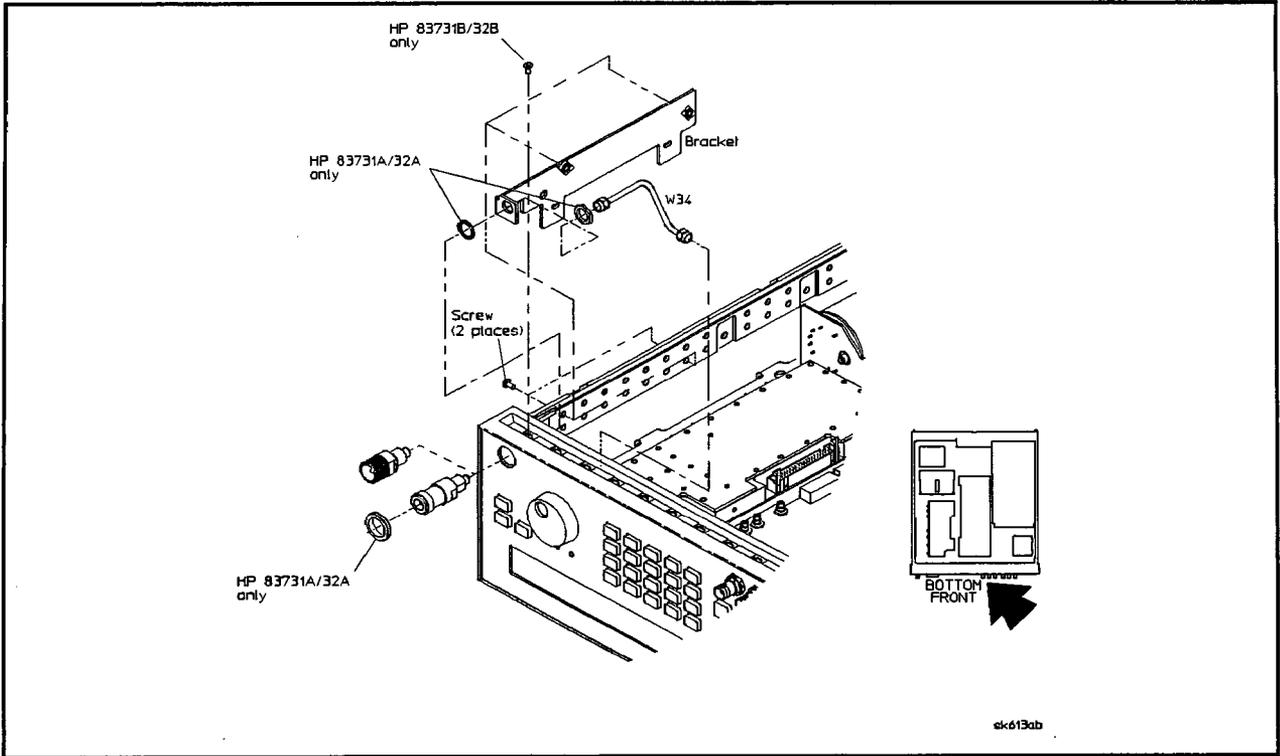
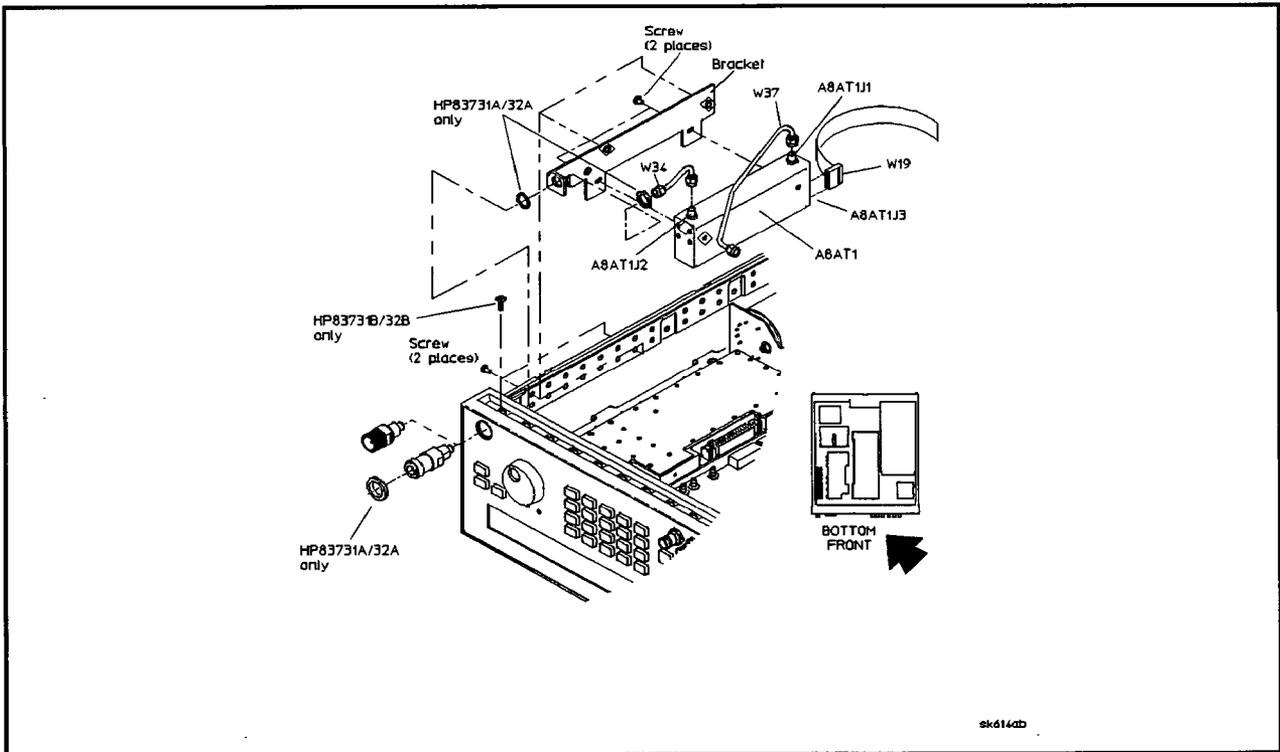

Figure 5-36. RF Output Connector Removal-Standard
Figure 5-37. RF Output Connector Removal-Option 1E1
3. Using a knurled nut driver, remove the knurled nut from the front panel RF output connector/adapter, CP1, if it is Type-N. See Figure 5-36 or Figure 5-37.
- b. Using a size 10 TORX® screwdriver, remove the two screws attaching the RF connector bracket to the side panel of the signal generator. See Figure 5-36.
6. If your instrument has Option 1E1, refer to Figure 5-37, and perform the following steps: